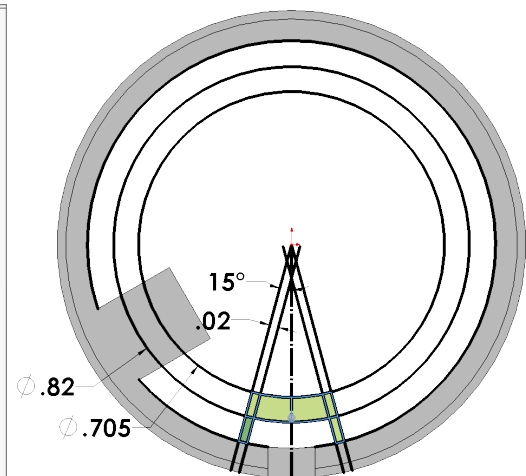

Fig. 91
Step 15. Click **Mirror Entities**  **Mirror Entities** on the Sketch toolbar, **Fig. 91**.
- Fig. 91**